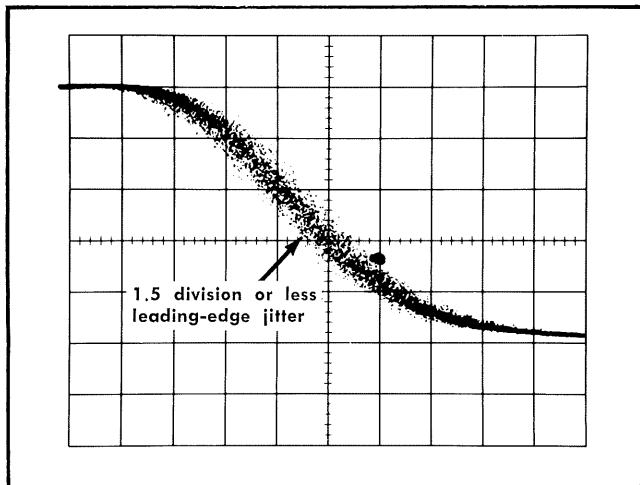

Fig. 5-6. Typical sampling system display of trigger jitter.
c. CHECK—Rotate the MULTIPLIER control throughout its range and check for 1.5 division or less jitter in the leading edge of the waveform (300 picoseconds or less; see Fig. 5-6).